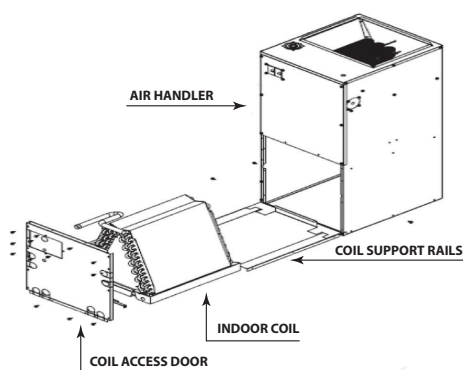

Figure 5. Indoor Coil Disassembly
The NAS Series air handlers may be converted to the downflow configuration using a required downflow conversion kit by following the instructions below (See Figures 5 and 6).
3. Remove indoor coil assembly with drain pan by sliding out the front of the air handler as shown in the Figure 5.